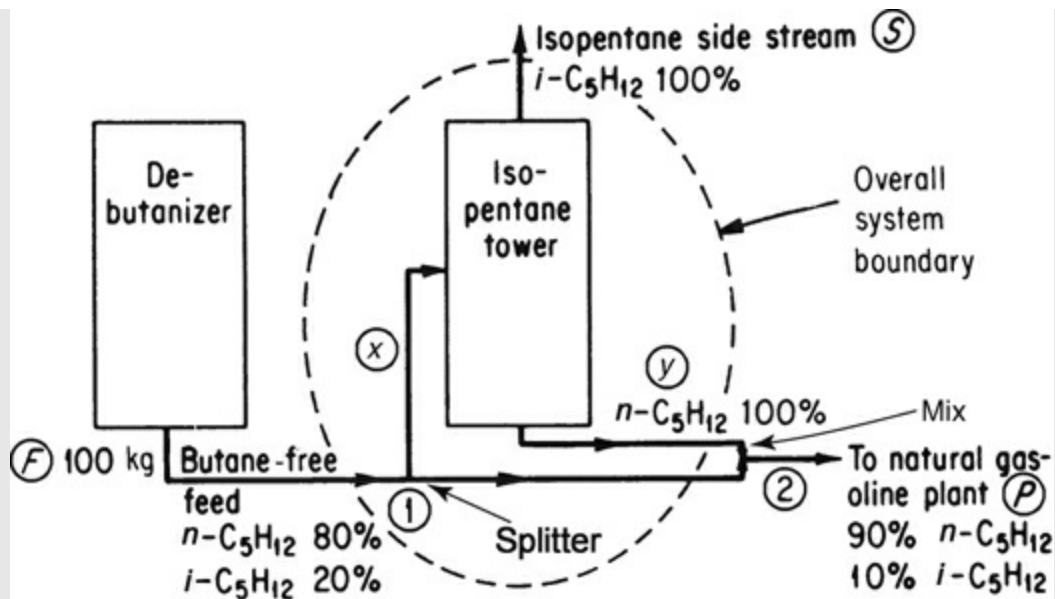

Figure E5.9
In the feedstock preparation section of a plant manufacturing natural gasoline, isopentane is removed from butane-free gasoline. Assume for purposes of simplification that the process and components are as shown in Figure E5.9. What fraction of the butane-free gasoline is passed through the isopentane tower? Detailed steps will not be listed in the analysis and solution of this problem. The process is in the steady state and no reaction occurs.
- b. The overall balances will not tell you anything about the fraction of the feed going to the isopentane tower; for this calculation you need another system. Pick the isopentane tower itself. Total material balance around isopentane tower: From Figure E5.9, X is the kilograms of butane-free gasoline going to the isopentane tower, and Y is the kilograms of $n\text{-C}_5\text{H}_{12}$ leaving the isopentane tower.